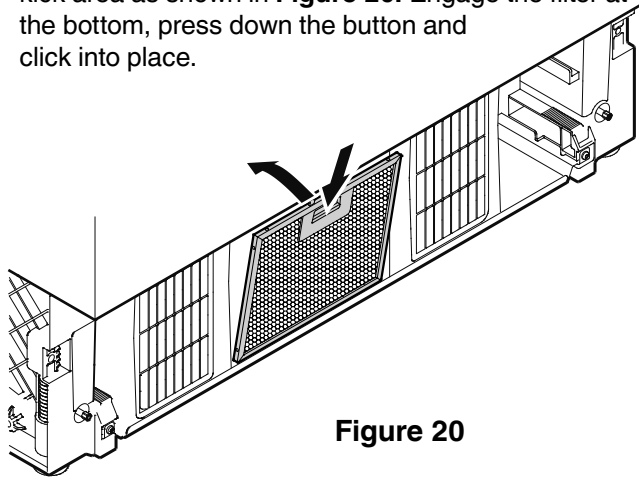

Figure 20
2. Remove the blue protection film from the dust filter provided and insert the filter into its opening in the toe kick area as shown in **Figure 20**. Engage the filter at the bottom, press down the button and click into place.